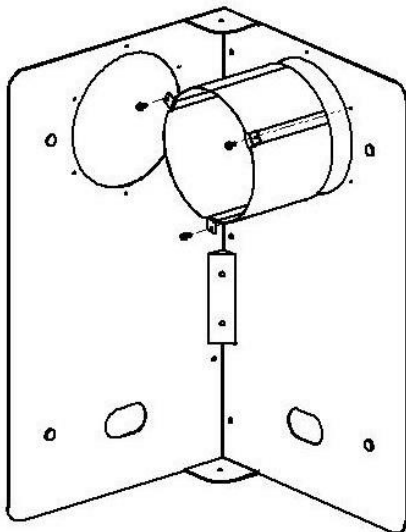

Fig. 1
**STEP 2:** Attach the inner and outer telescoping vent pass through heat-shields to the wall plate as shown in Fig. 1 & 2. The vent pass through heat-shields are to be installed where the vent passes through the first adjacent wall to the left or right of the corner install kit.